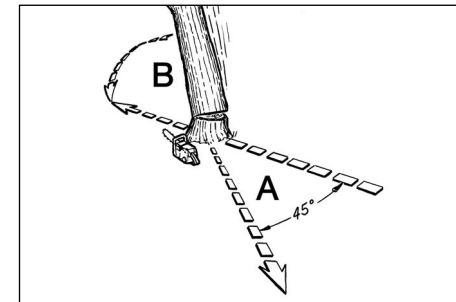

Fig. 11A
Warning: As the felling cut gets close to the hinge, the tree should begin to fall. When tree begins to fall, remove saw from cut, stop engine, put chain saw down, and leave area along retreat path (Fig. 11A).
Warning: A retreat path (A) should be planned and cleared as necessary before cuts are started. The retreat path should extend back and diagonally to the rear of the expected line of fall, as illustrated in Fig. 11A